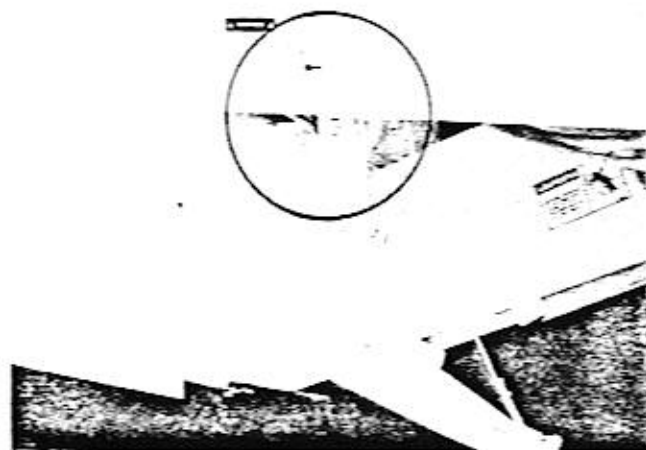

Figure 5-5
6. Crank both handles on top of depth indicators clockwise. The pointer will move away from "0" (Reference point zero cut) Crank handle until pointer moves to desired depth of cut (Each number on scale = 1 inch cut). See Figure 5-5.